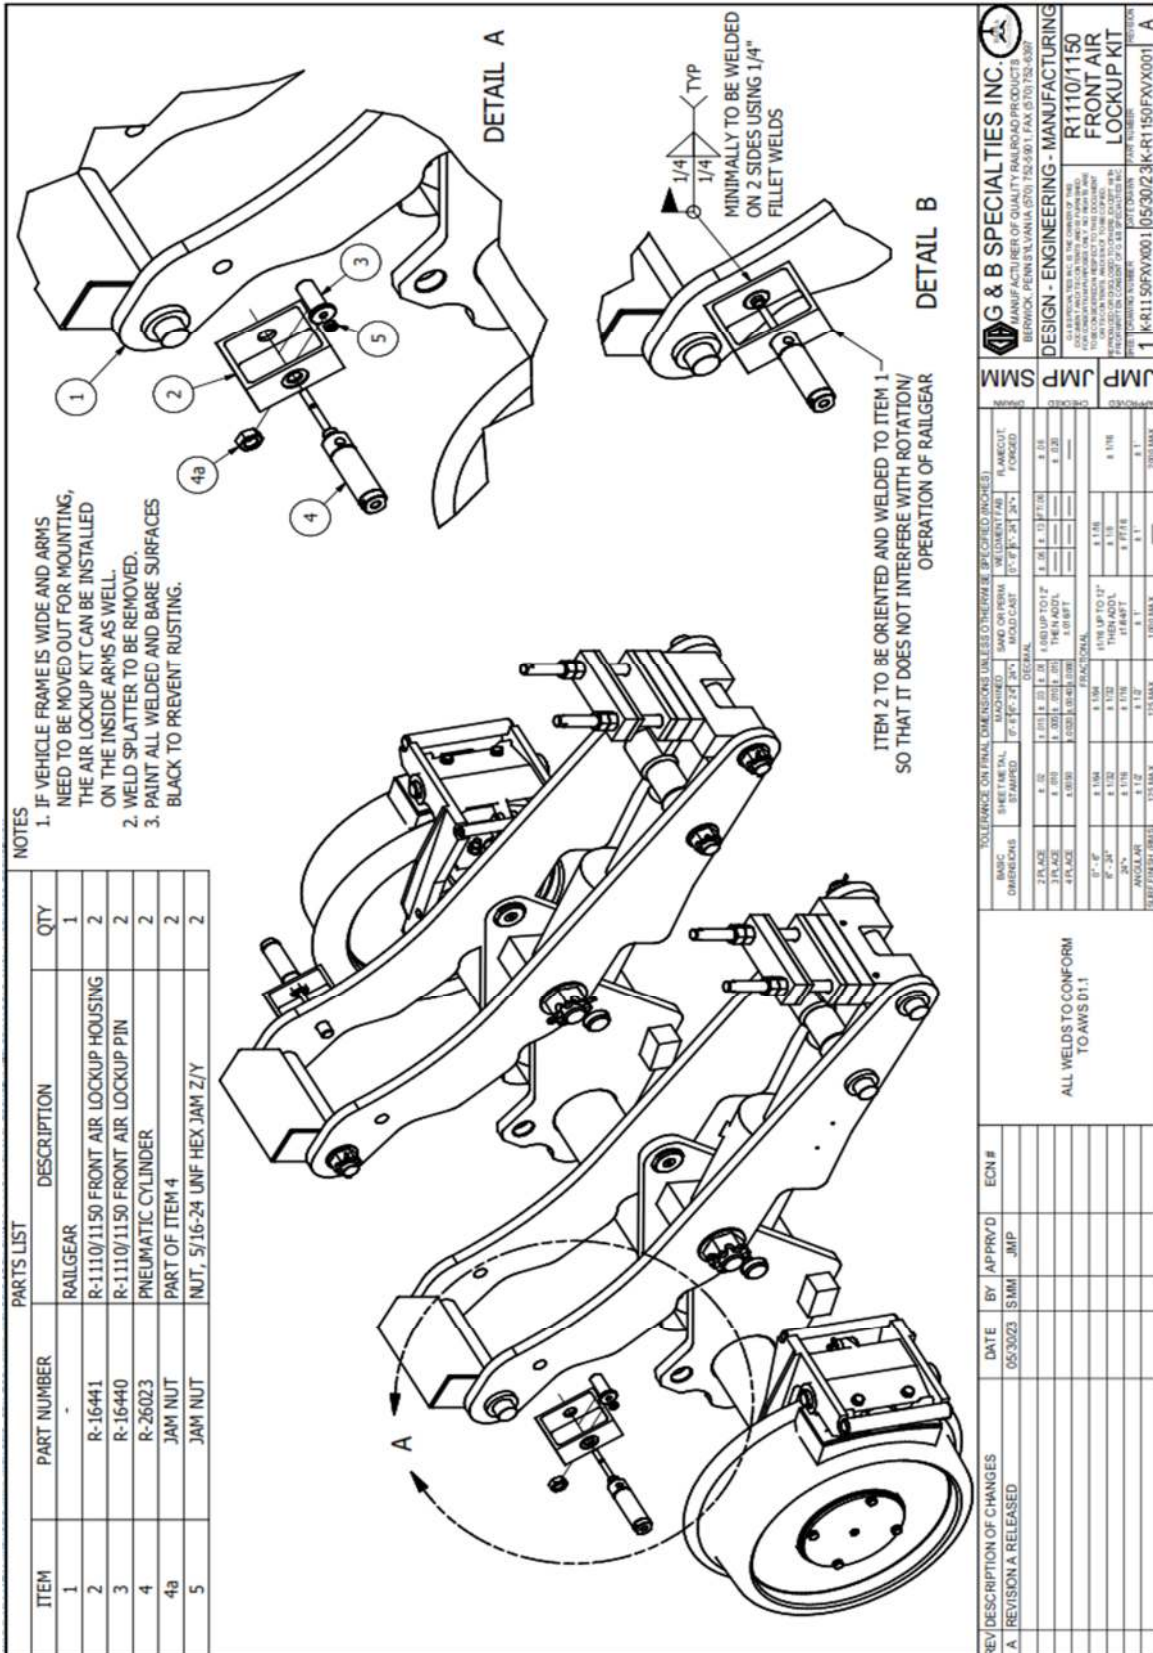

Fig 6-4
1. Fasten the two locking pins (Item 4 & 6, Fig 6-6) to the pin mounting bracket (Item 3, Fig 6-6) using two 3/8" flat washers and two 3/8" nylock nuts (Items 7 & 10, Fig 6-6) as shown in Figure 6-4.